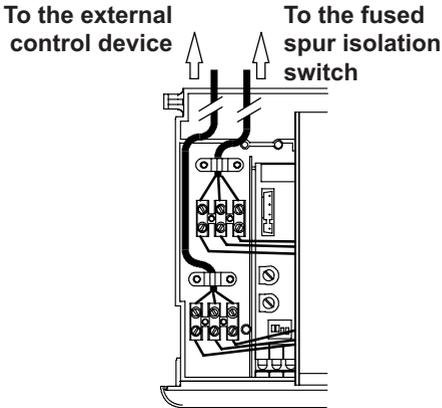

Fig. 6.16
- Connect the electrical supply flexible cord coming from the fused spur isolation switch to the power supply terminal block of the boiler (Fig. 6.16) keeping the same connections for the live (brown wire) and the neutral (blue wire). External 3 A fuse or fused plug with same current rating is recommended. **Do not connect live wires to terminals to which the room thermostat must be connected.**
- Route the electrical supply flexible cord and the external control flexible cord as illustrated in Fig. 6.16. Lock the flexible cords in place with the flexible cord clamps